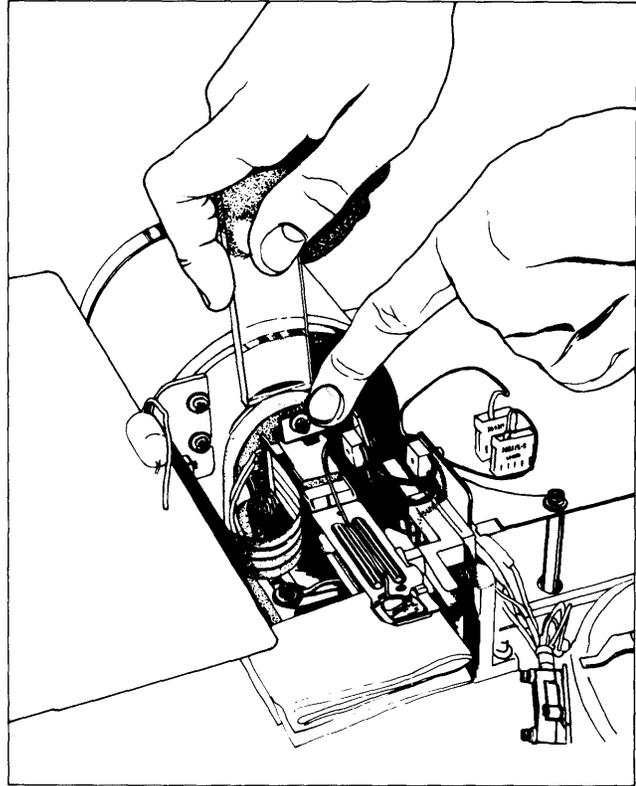

Figure 4-19. Positioner Coil Adjustment
7. Insert the Servo Coil Positioning Gauge between the magnetic and the rear of the carriage assembly, as in figure 4-19.